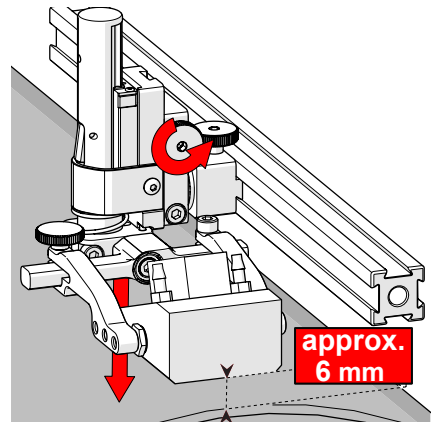

Fig. 84 - Lower toward scan surface
3. Tighten the vertical adjustment knob (Fig. 84).